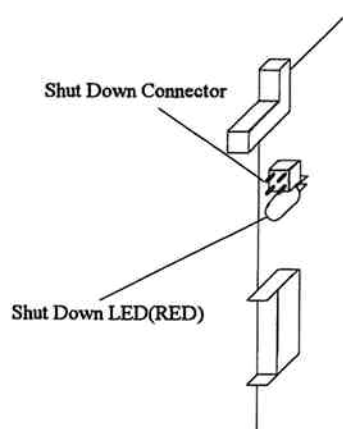

Fig. 3.4.2.3-1 Shut Down LED
- a. Confirm that the Shut Down LED lights.(Fig. 3.4.2.3-1) If the LED does not light, see Connection of Shut Down Jumper(INST03-2600).